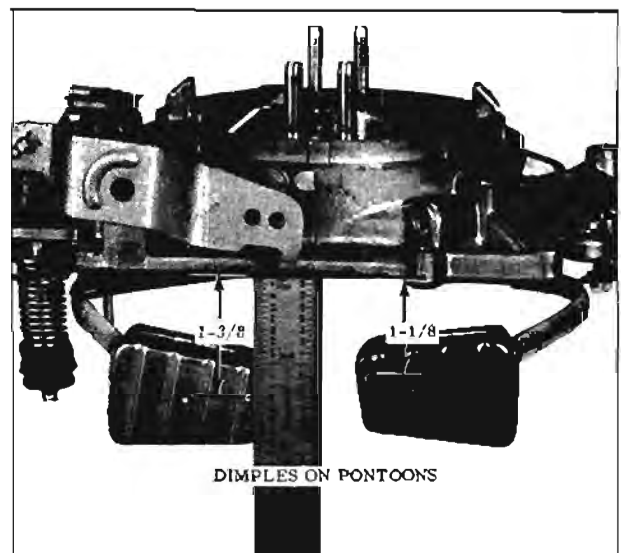

Fig. 9-185 Checking Float Drop
1. Position the air horn as shown in Fig. 9-185.